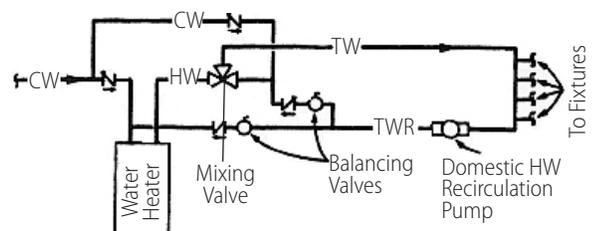

Figure 6-18 Temperature-Actuated Mixing Valve Installation
- Temperature actuated mixing valve (ASSE 1017), which is installed at or near the outlet of a water heater to automatically temper the hot water to a preset temperature before it reaches the point of use, regardless of the water heater's thermostat setting (see Figure 6-18)